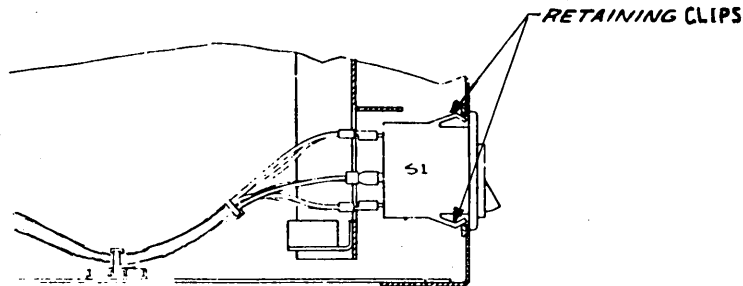

Figure 4-14. Switch Retaining Clips
6. Reaching inside, squeeze the retaining clips on each side of the switch (see Figure 4-14) and push the switch out through the front.